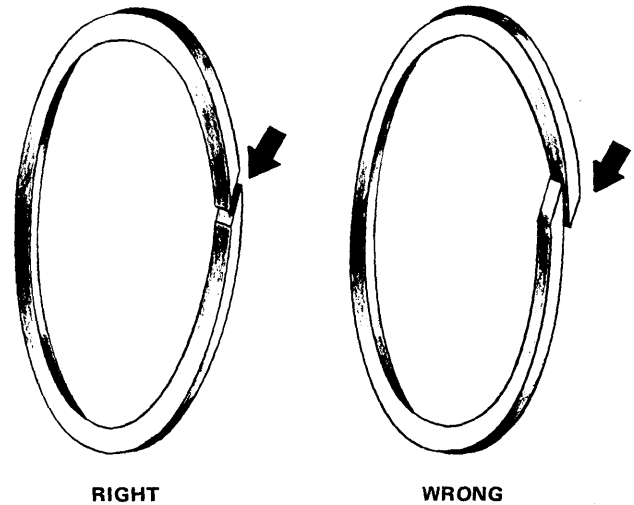

Fig. 7-65 Correct Ring Installation
(5) Install boost valve in bushing, stem end out, and install valve and bushing in pump cover.
(6) Compress bushing against spring and install retaining snap ring.
(7) Install pressure regulator valve bore plug at opposite end of bore and install retaining pin.
(8) Install selective thrust washer over pump cover delivery sleeve.
(9) Install oil seal rings if removed.
**NOTE:** If teflon rings are reused, be sure the slit ends are assembled in the same relation as cut (fig. 7-65).